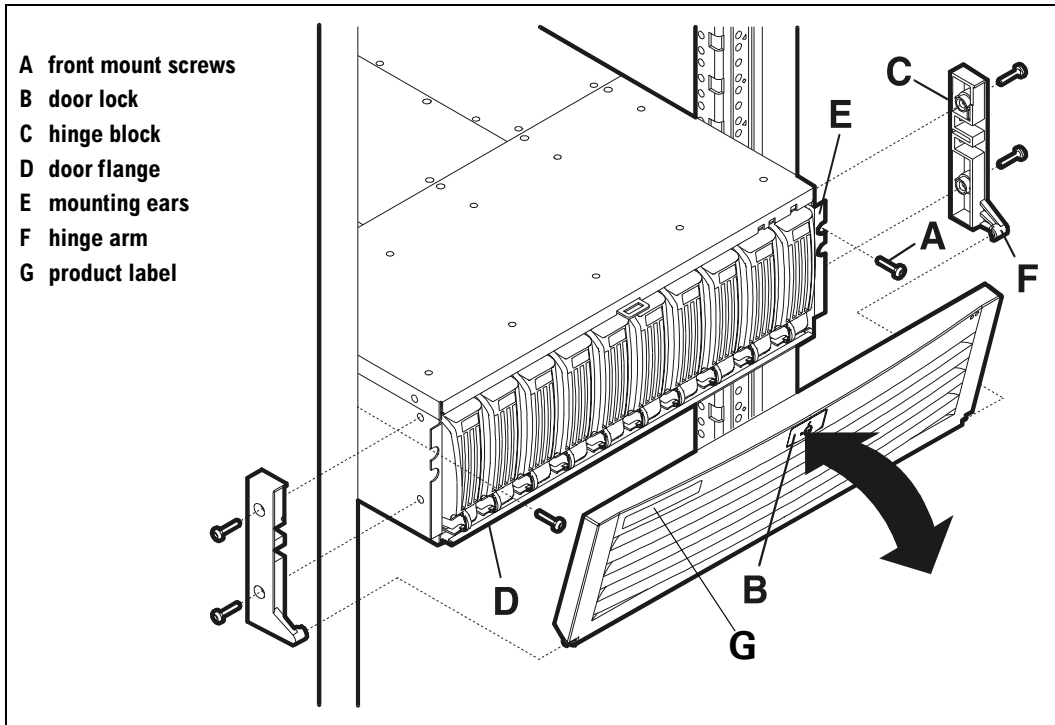

Figure 58 Door Removal and Replacement
2. With the door closed, remove two screws from each hinge block (C in Figure 58).
5. To replace the door, insert the bottom flange (D) of the disk system between the gasket and bottom edge of the new door.
7. Insert the right and left hinge blocks behind the disk system mounting ears (E), aligning all holes and inserting the hinge arm (F) over the pin on the bottom of the door.